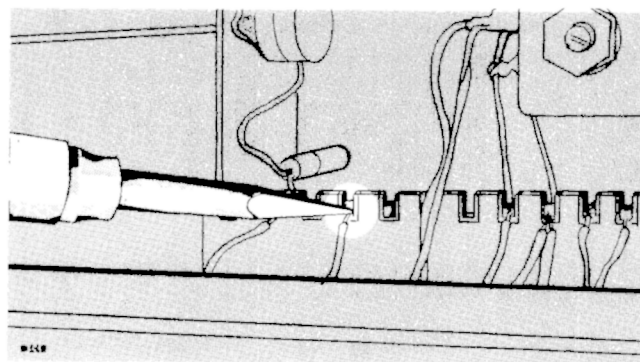

Fig. 4-2. Correct method of applying heat in soldering to a ceramic strip.
4. Apply one corner of the tip to the notch where you wish to solder (see Fig. 4-2).